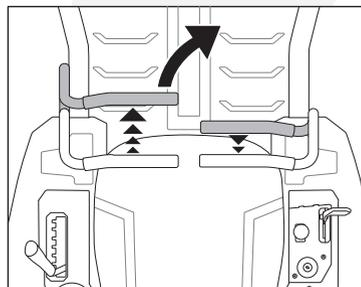

Fig.16A
1. To turn to the right, move the right drive control lever rearward of the left drive control lever. (Fig.16A)